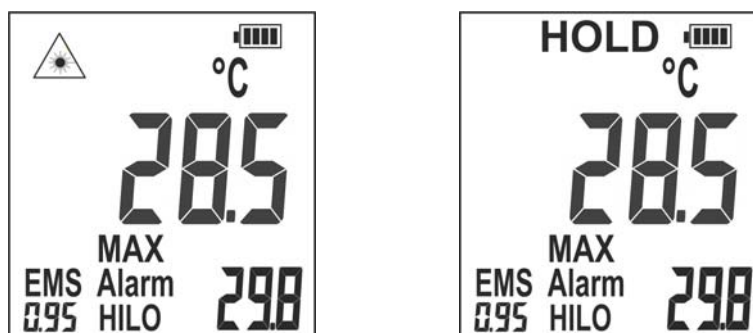

Fig. 18: Display of measured values
7. Release the Trigger key **T** to stop measuring and freeze the last read value. The symbol " " disappears and the message "HOLD" is shown on the display (see Fig. 18).